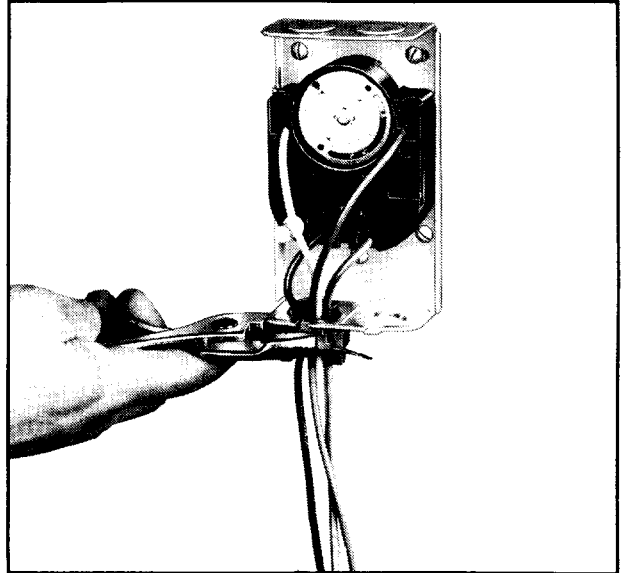

FIG. 10—CLOSING THE STRAIN RELIEF BUSHING.
4. If strain relief bushing is used, close the movable gate when all wires have been connected to the terminals (Fig. 10).